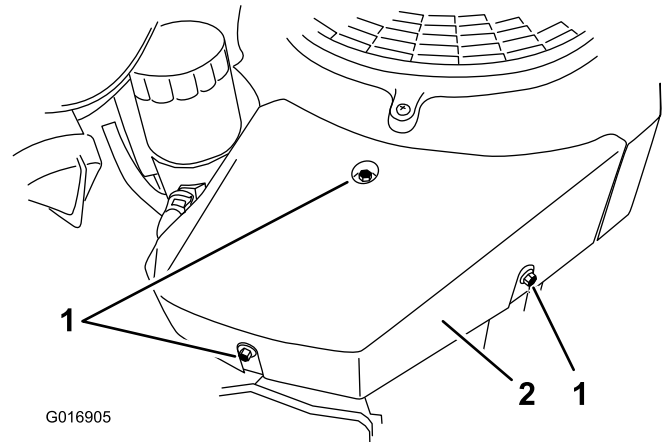

Figure 73
3. Remove the right-hand shroud by removing the top mounting screw and loosening the 2 side screws (Figure 73).